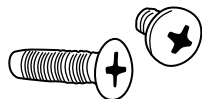

Figure 1
Select a conveniently-located, flat-panel surface of sufficient size to accommodate the unit. The unit can be conveniently mounted in any orientation and will comply with NFPA 1901-14.1.11.2. The unit is secured to the truck by means of two "L"-shaped aluminum brackets. The brackets attach to the truck with four (4) #10 stainless steel countersunk thread-forming Phillips-head screws, which are provided. The Powerhouse attaches to the same brackets with four (4) #10 stainless steel Phillips-head pan screws that are also provided with the unit (Figure 1).